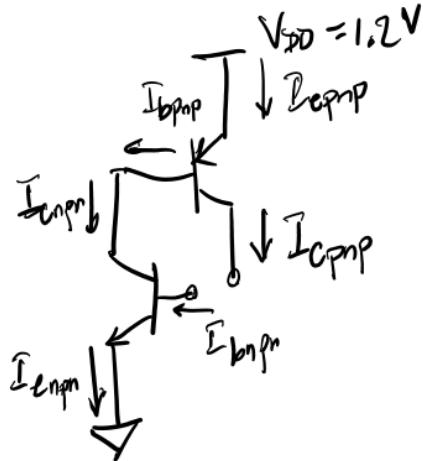

Figure 3: The schematic of the closed loop, with an artificial short at B_{npn} and C_{pnp}
Using figure 3, we could start doing some case analysis. When $I_{B_{npn}}$ is 0, the npn transistor is in cut-off, which would bring $I_{B_{pnp}}$ to 0, which would also cut-off the pnp transistor. The expression for $I_{C_{pnp}}$ in cut-off is available in (1).